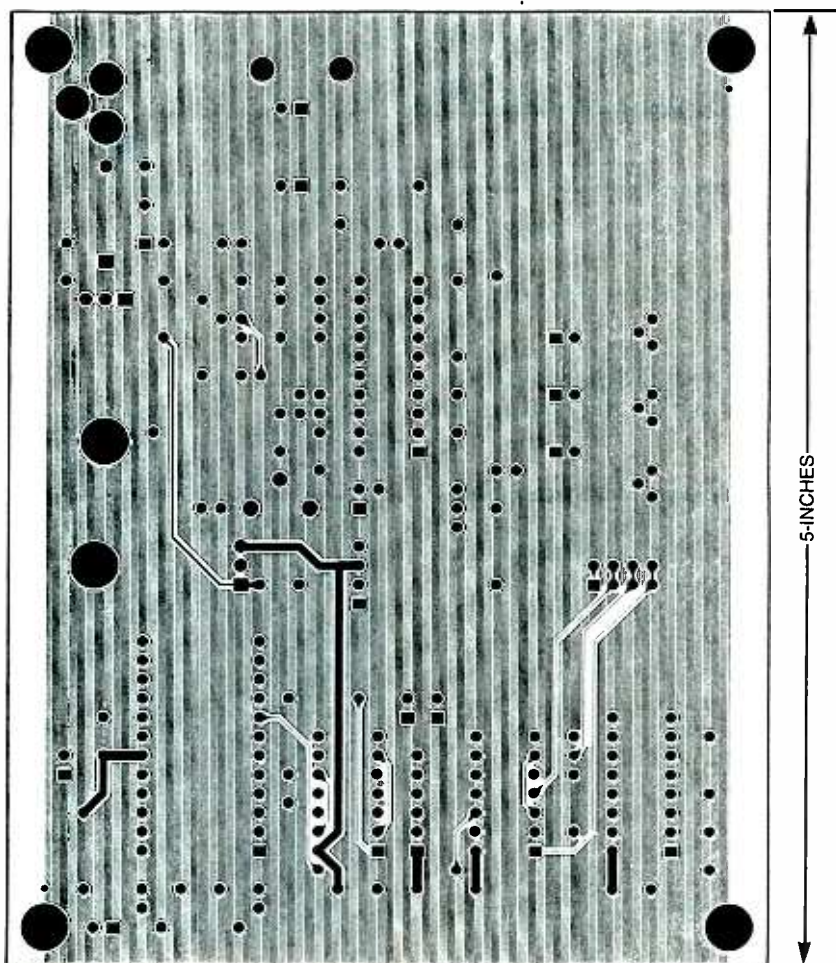
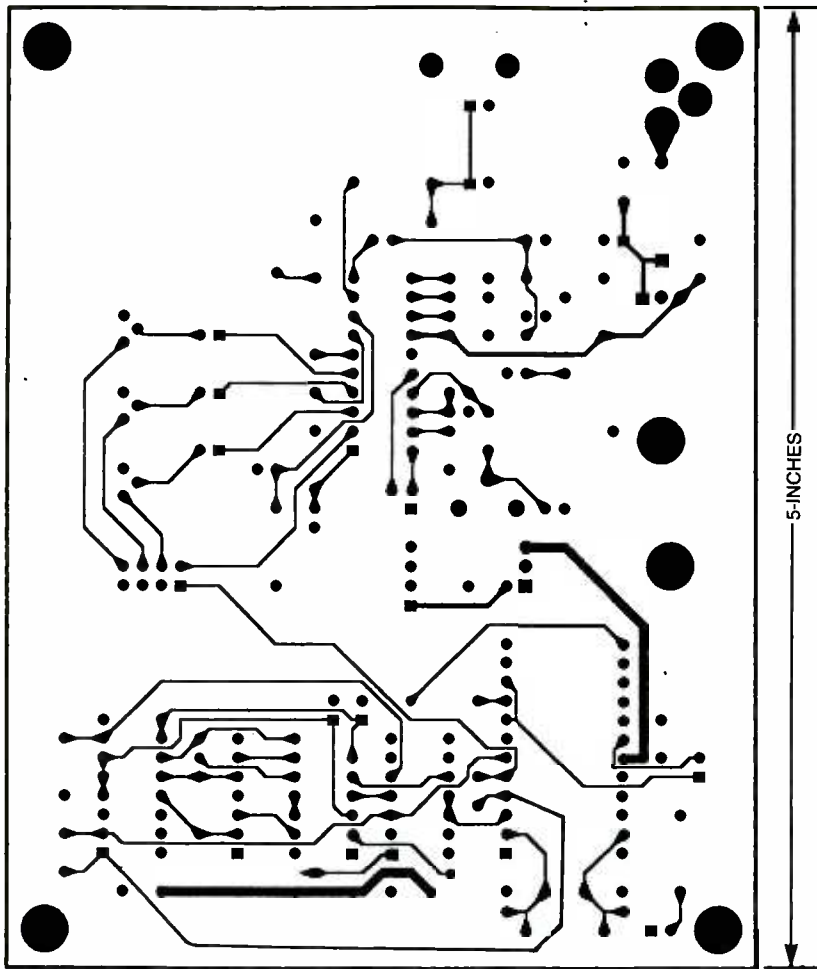

Fig. 8. The NTSC/PAL Signal Generator is best built on a PC board. Here is the foil pattern for the component side of the board.
Fig. 9. Here is the solder side foil pattern for the NTSC/PAL Signal Generator.
**Construction.** Because of the high frequencies involved, use a printed-circuit board when building the NTSC/PAL Signal Generator. A double-sided design has been provided in Fig 8 (component side) and Fig. 9 (solder side). If you don't want to etch and drill your own board—double-sided boards can be very difficult to make in your basement or home workshop—you can purchase one from the source given in the Parts List.
Another requirement of the PC board is the use of "ground planes" to help contain the high-frequency signals. The top-side pattern (Fig. 8) shows just such a design feature.